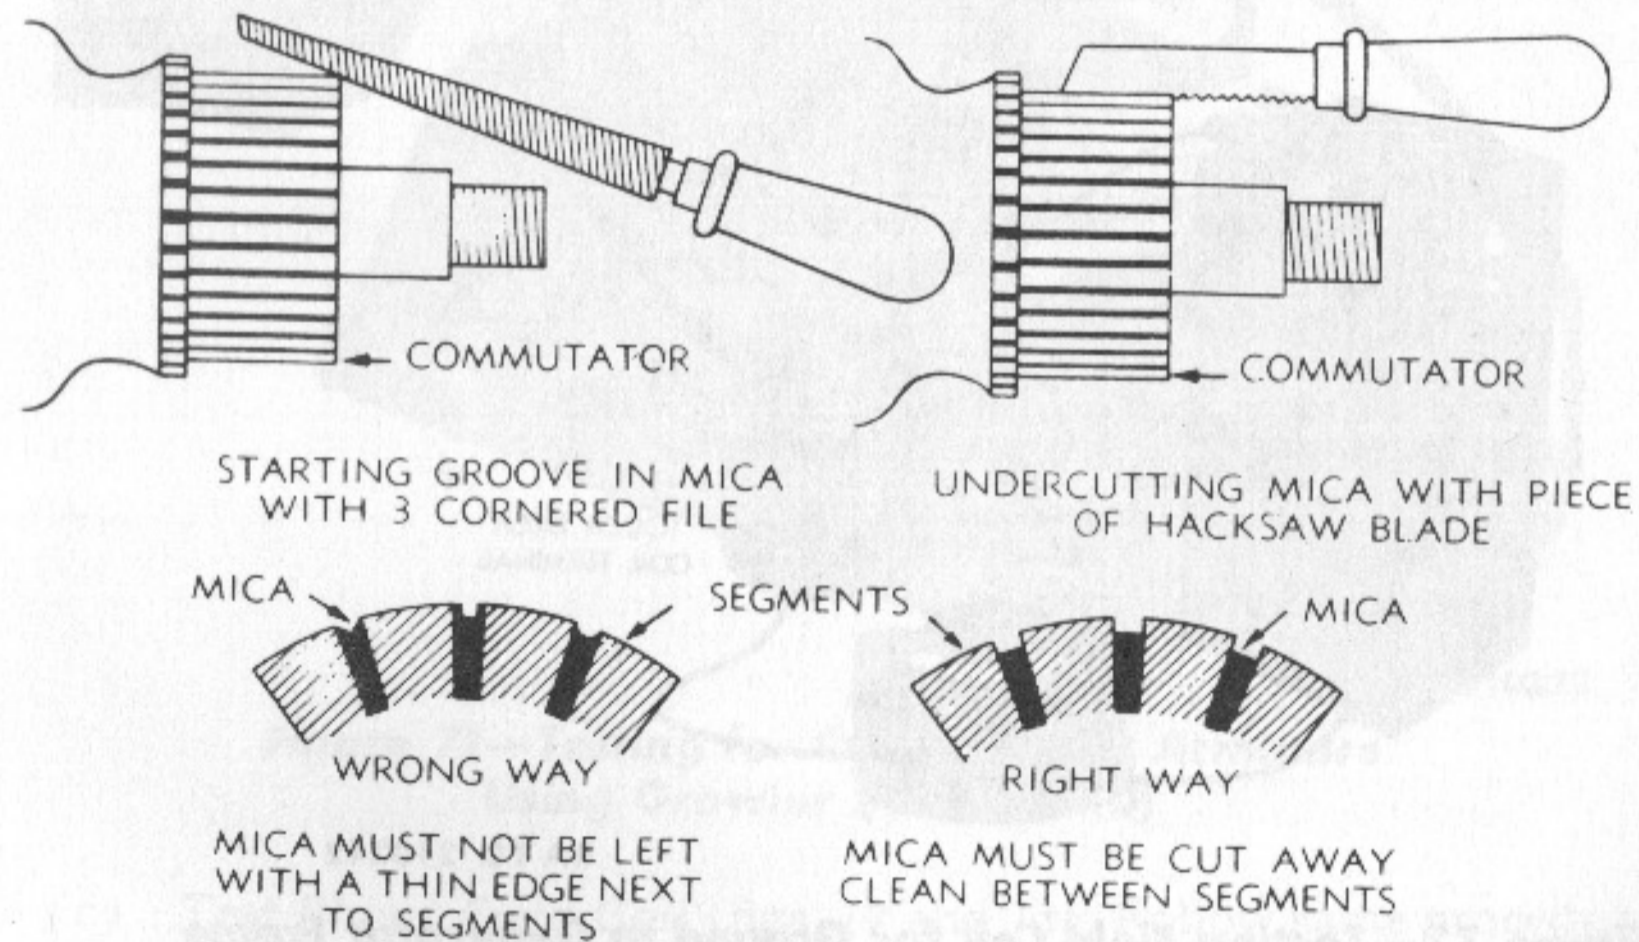

Figure 75—Method of Undercutting Commutator Mica
c. **Undercutting Commutator Mica.** Unless the mica insulation between the commutator segments is undercut (lower than surface of segments) the brushes will not seat firmly against the segments, and the generator output will not be normal. Also, there will be excessive arcing at the brushes. After the commutator has been trued, the mica must be undercut to a depth of 0.025 inch. Mica undercutting is usually done on a machine. If such a machine is not available it can be done by hand (fig. 75). Smooth commutator with 2/0 flint paper after undercutting.
(1) **MAKE GROWLER TEST AFTER UNDERCUTTING MICA.** It is advisable to repeat the growler tests, paragraph 63 b (1), (b), to see if a short has developed during turning and undercutting operations. If a short has developed, it can very likely be corrected by a more thorough cleaning between segments and at ends of the commutator.
a. **Install Field Coils and Pole Shoes.** If the field coils have been removed from the generator frame (par. 62 b (14)), care must be exercised in their installation to give the correct clearance between the pole shoes and the armature core.